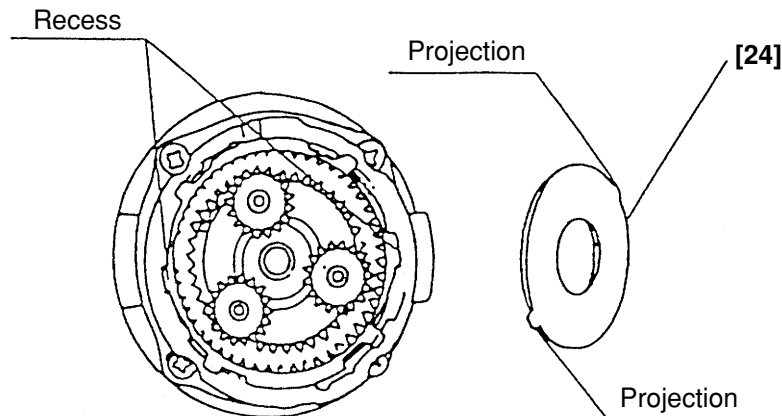

Fig. 10
- (iii) Install Washer (B) [24] in the Rear Case [15] with the projections of Washer (B) [24] engaged with the recesses in the Rear Case [15], and turn Washer (B) [24] clockwise until it can turn no further. (See Fig. 10.)